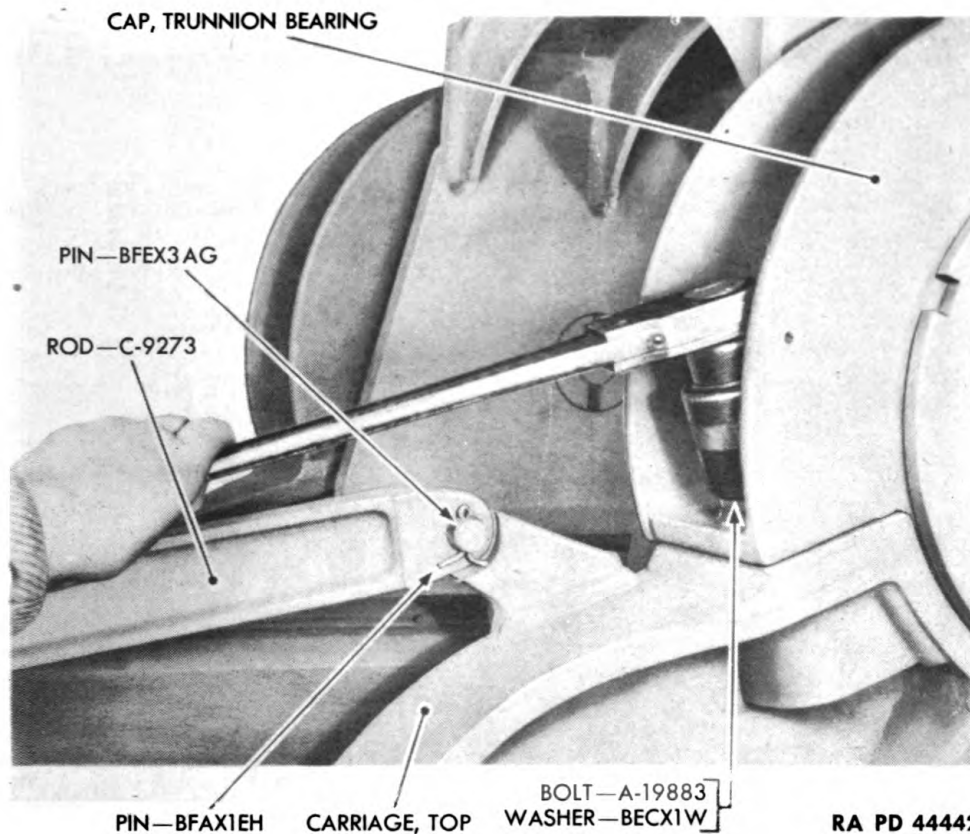

Figure 42—Removing Trunnion Cap Front Bolts
(9) Drain the oil from the equilibrator which has just been removed and disconnect adapter assembly B291711 so that it may be used to remove the other equilibrator.
(10) Proceed in the same manner to remove the other equilibrator.
a. Loosen and remove bolt A19762, nut BBBX3B, and washer BECX1W from left trunnion bearing cap and top carriage (fig. 41). Loosen and remove bolt A19883 and washer BECX1W (fig. 42).
a. Remove cotter pins BFA1EH from pin BFEX3AG, and tap straight pin out of rod C9273 (fig. 42).